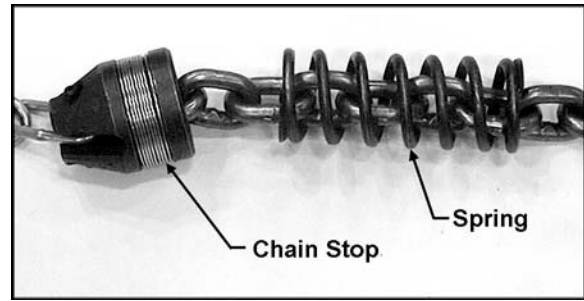

Figure 16
3. On the slack side of the chain, remove the chain stop and the spring (Figure 16). Keep these handy for later re-installing.
3. On the slack side of the chain, remove the chain stop, and remove the black spring(s). (see Figure 16). Keep these handy for later re-installing.
6. Support the load hook so that the load chain can pass through the chain sheaves smoothly. Figure 16 shows the load chain path for the various sizes of hoist.